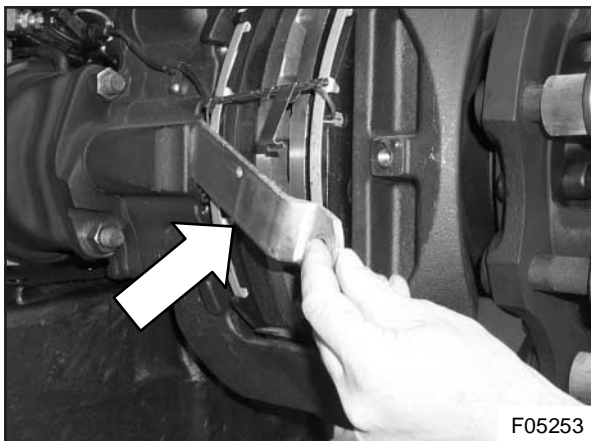

Figure 29 : Pad retaining plate removal
4. Remove the retaining plate as indicated in Figure 29.